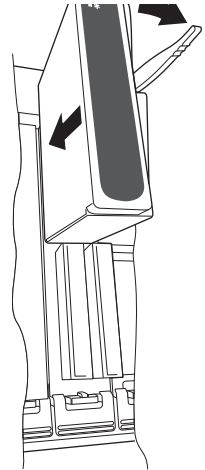

Figure 6 IO Module installation
1. Pull the module retaining lever forwards into the unlocked position as shown in Figure 6.
1. Pull the module retaining lever forwards into the unlocked position as shown in Figure 6